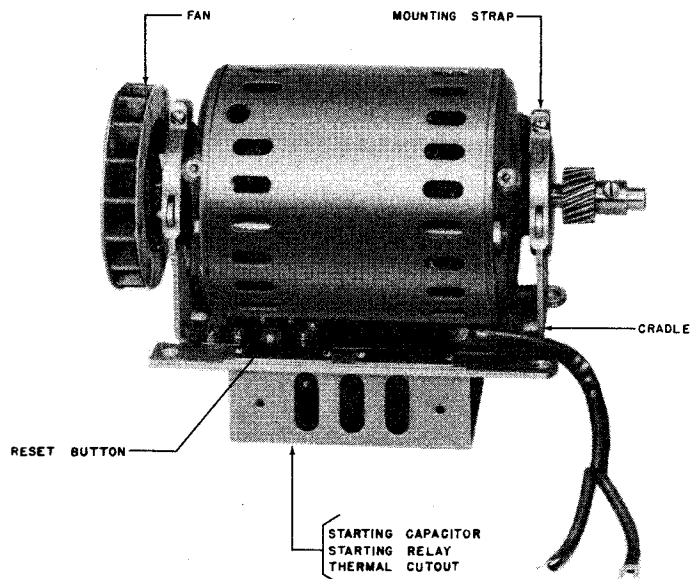

Figure 1-9A. AC Motor PD-17A/U, Synchronous
(2) AC MOTOR (SYNCHRONOUS) PD-17A/U. (See figure 1-9A.)